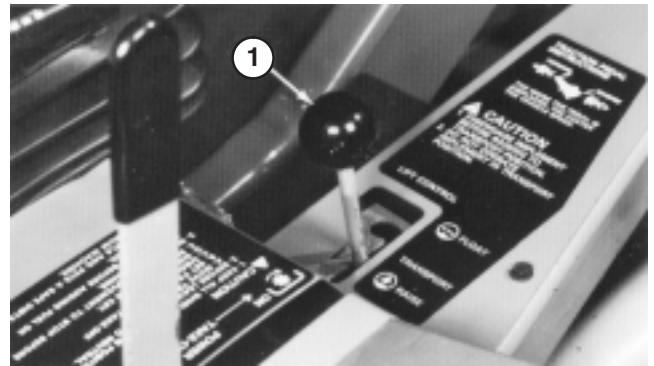
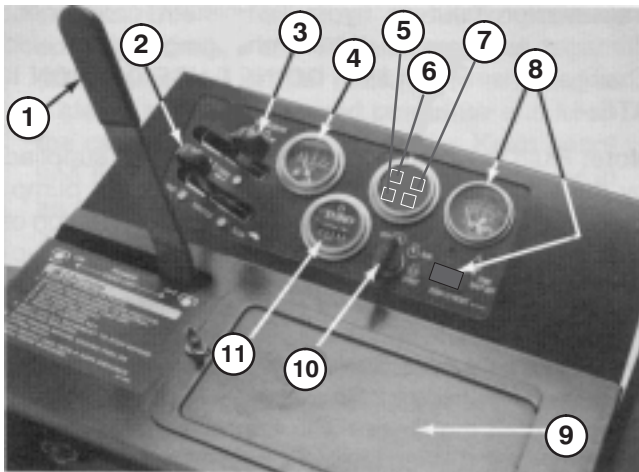

Figure 17
Figure 18
Lift Lever (Fig. 17)—The hydraulic lift lever has three positions: FLOAT, TRANSPORT, and RAISE. To lower implement to the ground, move lift lever forward into notch, which is the FLOAT position. The FLOAT position is used for operation and also when machine is not in operation. To raise implement, pull lift lever backward to the RAISE position. After implement is raised, allow lift lever to move to the TRANSPORT position. Normally, implement should be raised when driving from one work area to another, except when descending steep slopes.
PTO Lever (Fig. 18) — The PTO lever has two positions: ON (engage) and OFF (disengage). Slowly push PTO lever fully forward to ON position to start the implement or cutting unit blades. Slowly, pull lever backward to OFF position to stop implement operation. The only time PTO lever should be in the ON position is when implement or cutting unit is down in operating position.
Hour Meter (Fig. 18) – The hour meter registers accumulated hours of engine operation. Use the hour meter to determine intervals for service maintenance and lubrication.
Fuel Gauge (Fig. 18) – Indicates quantity of fuel remaining in fuel tank.
Engine Oil Pressure Warning Light (Fig. 18) – Indicates dangerously low engine oil pressure.
Engine Coolant Temperature Warning Light (Fig. 18) – The light illuminates and engine shuts down when coolant reaches a dangerously high temperature.
Charge Indicator (Fig. 18) – Illuminates when system charging circuit malfunctions.
Temperature Gauge and Reset Switch (Fig. 18) – The temperature gauge registers the temperature of the coolant in the cooling system. If temperature of coolant gets too high the engine will shut off automatically. When this happens, rotate ignition key to OFF. Automatic shut-off of the engine usually results from debris on front of screen or radiator, which reduces air flow. After cleaning outside of screen and radiator or repairing some other damage, press the reset button and start the engine.
Ignition Switch (Fig. 18) – The key switch, which is used to start and stop the engine, has three position: OFF, RUN, and START. Rotate key clockwise to the START position to engage starter motor. When engine starts, release key and it will move automatically to the ON position. To shut engine off, rotate key counterclockwise to the OFF position.
Choke (Fig. 18) – To start a cold engine, close carburetor choke by moving choke control fully forward. After engine starts, regulate choke to keep engine running smoothly. As soon as possible, open the choke by pulling it backward.
Throttle Control (Fig. 18) – Throttle is used to operate engine at various speeds. Moving throttle forward increases engine speed—FAST; backward decreases engine speed—SLOW. The throttle regulates the speed of the cutter blades or other implement components and, in conjunction with traction pedal, controls ground speed of the traction unit.
1. Ensure parking brake is set, PTO lever is in OFF position (Fig. 18), and lift lever is in TRANSPORT or FLOAT position (Fig. 17). Remove foot from traction pedal and insure it is in neutral.
2. Move throttle control (Fig. 18) to 1/4–1/3 open position.
3. To start engine, move choke lever (Fig. 18) fully forward.
4. Insert key into ignition switch (Fig. 18) and rotate it clockwise to START position. Hold key in START position for a few seconds to energize ignition system. Release key immediately when engine starts and regulate choke to keep engine running smoothly.